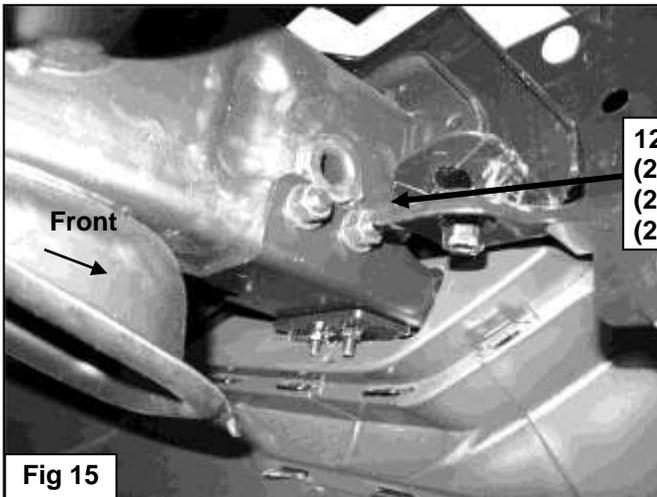

Fig 15
5. Select (1) Frame Bracket, **(Figure 12)**. Insert the Frame Bracket through the opening in the bumper, **(Figure 13)**. Line up the holes in the Bracket with the holes in the end of the frame for the tow hook. Select (1) 12mm Double Bolt Plate, **(Figure 14)**. Insert the Double Bolt Plate into the end of the frame, through the (2) holes in the side of the frame and out through the Frame Bracket, **(Figure 15)**. Secure the Frame Bracket to the Bolt Plate with (2) 12mm Flat Washers and (2) 12mm Lock Washers and (2) 12mm Hex Nuts. Snug but do not fully tighten hardware at this time.